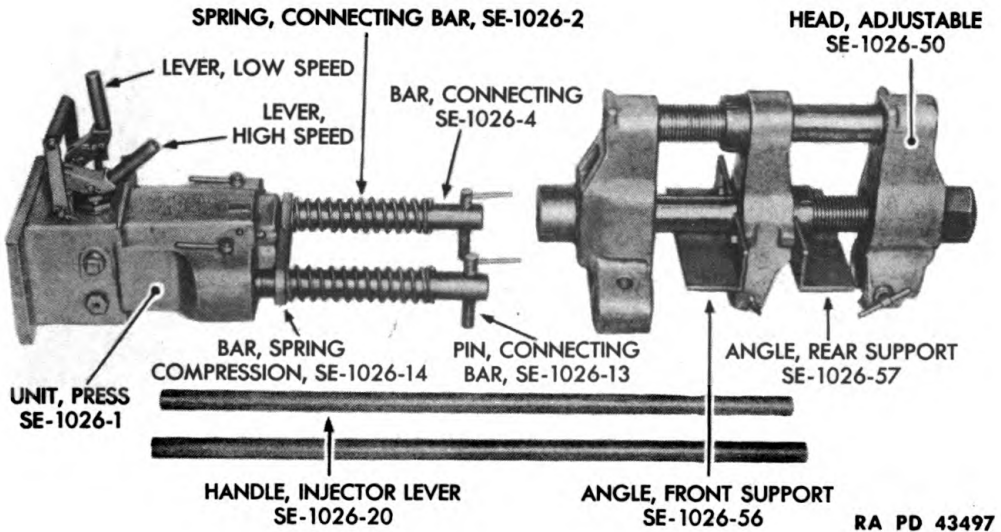

Figure 201 — Portable Hydraulic Track Pin and Bushing Press with Adjustable Head
b. **Track Pin and Bushing Press with Adjustable Head** (fig. 201). Press may be used to remove and replace track pins and bushings. Press unit SE-1026-1 and tools SE-1026-2, -4, -13, and -20 are packed in one box. Adjustable head SE-1026-50 and all tools covered by SE-1026-51 are packed in another box (fig. 188). This arrangement is helpful for quickly selecting tools required for each operation. Check list must be kept tacked to inside of box lid. After using press, replace tools in box. Check against list tacked on box lid to be sure all tools are replaced.